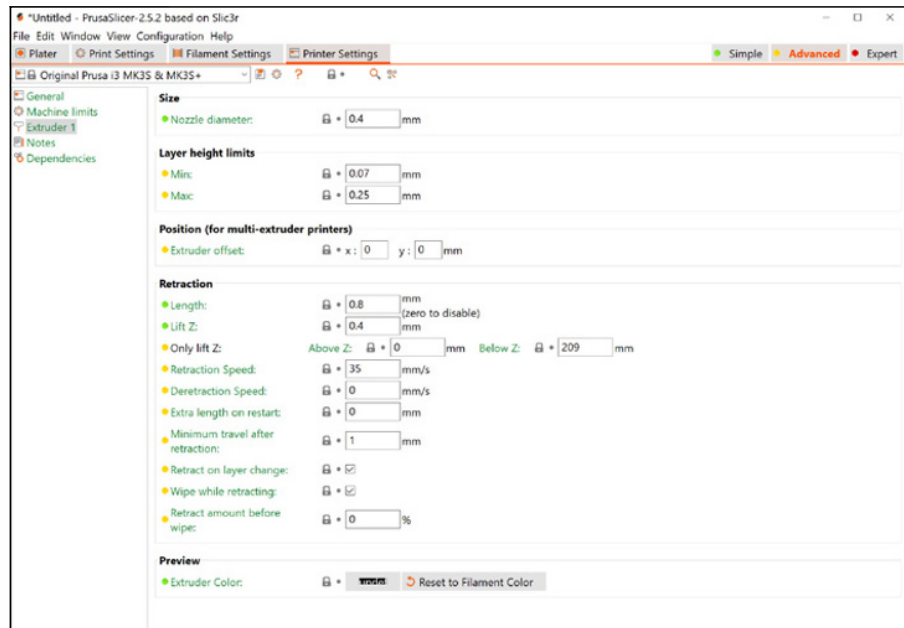

FIGURE 15-19:
4. On the Printer Settings tab (see Figure 15-19), set your 3D printer size and extruder setup, nozzle size, and general machine configurations.